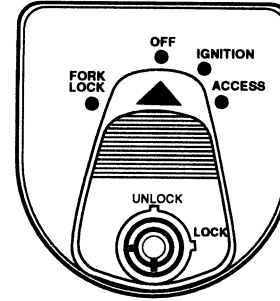

Figure 6. Ignition/Light Key Switch
See Figure 6. The ignition/light key switch controls electrical functions of the motorcycle.
2. See Figure 6. Turn the key to the OFF position.